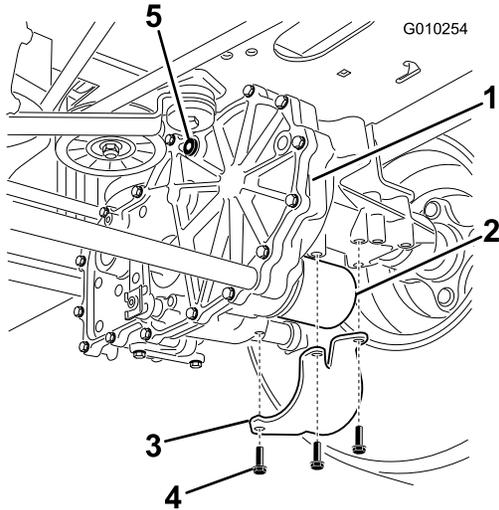

Figure 52
3. Locate the filter and guards on each transaxle drive system (Figure 52).
4. Remove three screws securing the filter guard and remove the guard (Figure 52).
- A. Ensure that the vent plugs and reservoir cap are removed before adding the oil (Figure 51 and Figure 52).
- B. Slowly pour the specified oil through expansion reservoir until oil comes out of **one** of the vent plug holes and stop filling (Figure 52).
- C. Install that vent plug (Figure 52).
- D. Add oil through the expansion reservoir until oil comes out of the remaining vent plug hole on the second transmission and stop filling (Figure 52).
- E. Install that vent plug (Figure 52).